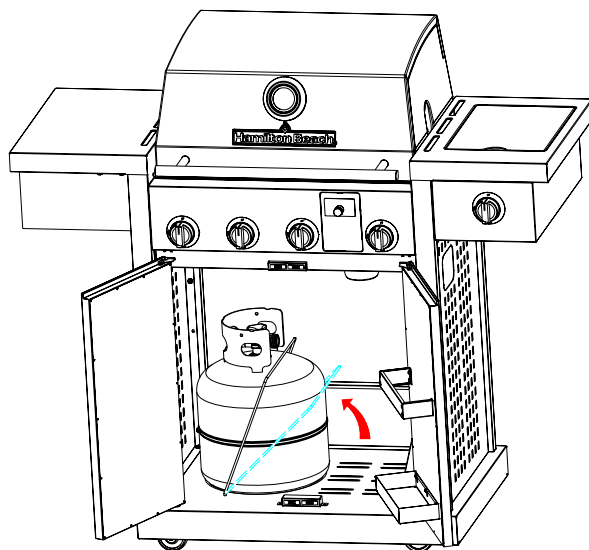

Fig.14
1. Place LP tank into hole in bottom shelf with tank collar opening facing to the front as shown. Raise tank holder to hold LP tank securely in place as shown in Fig.14.
4. Tank must be oriented to provide proper vapor withdrawal, as shown in Fig. 14..
8. Other tanks may be acceptable for use with your grill provided they are compatible with the tank retention means shown in Fig. 14.